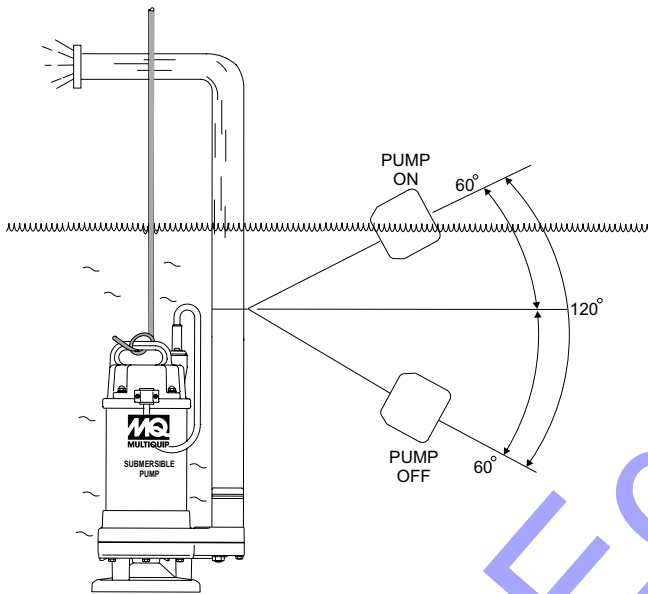
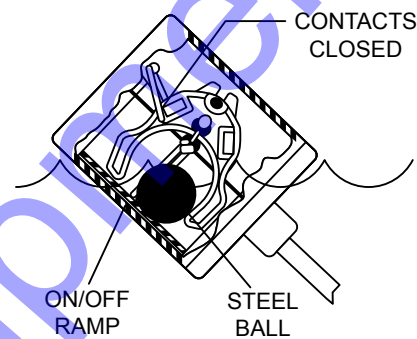
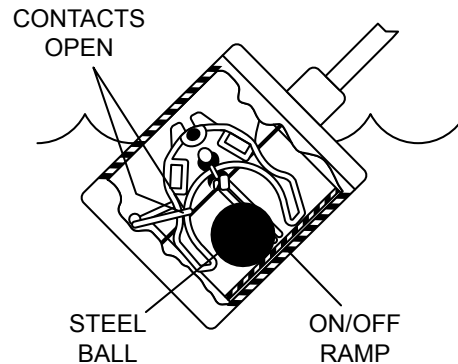

Figure 5. Pumping Range (Float Switch)
Figure 6. Float Switch (Closed)
Figure 7. Float Switch (Open)
The mechanical float switch control will turn ON (close) when the float tips 45° above -horizontal, indicating a high level, and turns OFF (opens) when the float switch drops 45° below horizontal. Reference Figure 6 and Figure 7. Maximum pumping range is 120 degrees. See Figure 5 below.
1. Determine the required **cord tether length** as shown in Figure 5 and Table 3.